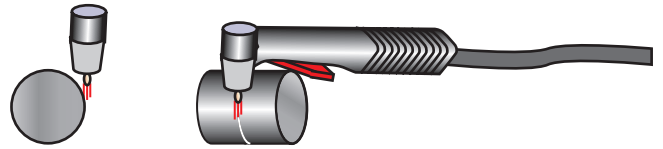

FIGURE 7-34 Start the cut on a round part at an angle to the surface.
- Follow the setup and starting of the plasma procedures outlined in Practice 7-1, but hold the torch so it is pointed parallel to the round piece and in line with the line to be cut, **Figure 7-34**.